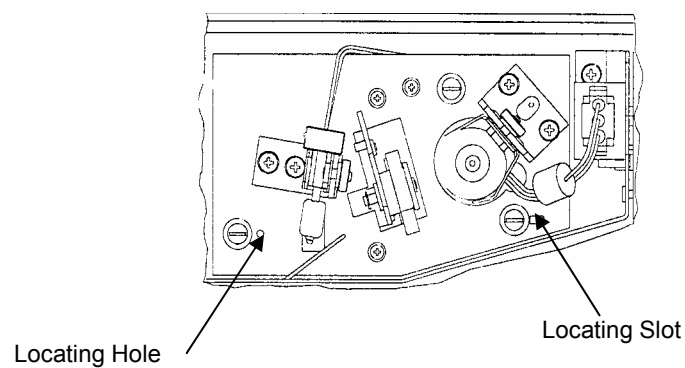

Figure 22 Lamp unit locating hole and slot
6. Lift the lamp unit off the locating pins as shown in Figure 22.